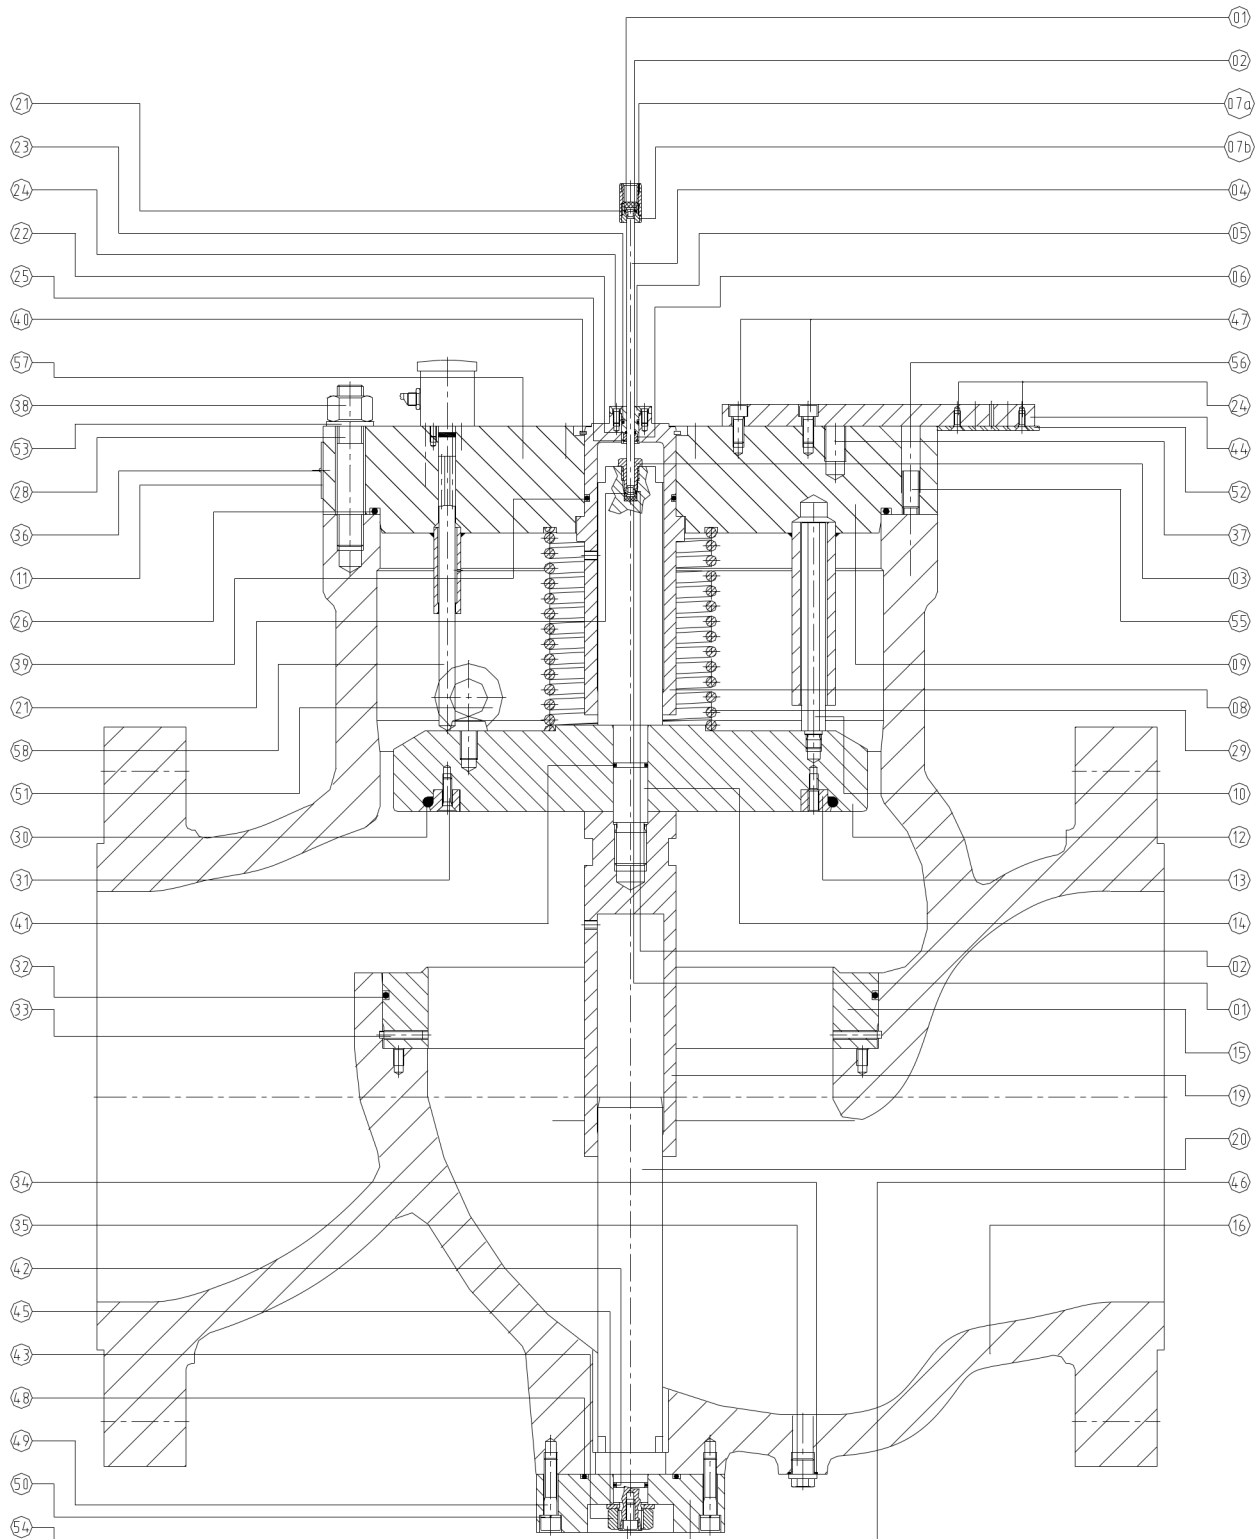

Figure 7b: valve and valve body HSVS086
(see figures 7b and 7c and partslist page 33)
5.1.8 Parts list valve and valve body HSVS (see also figures 7b and 7c)